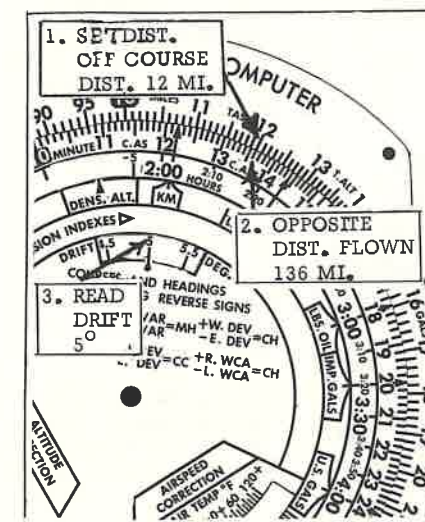

FIG. 15
1. SEE FIG. 15. Align 12 on the stationary miles scale with 136 on the minute scale then read in the auxiliary scale 5 deg. to parallel course.